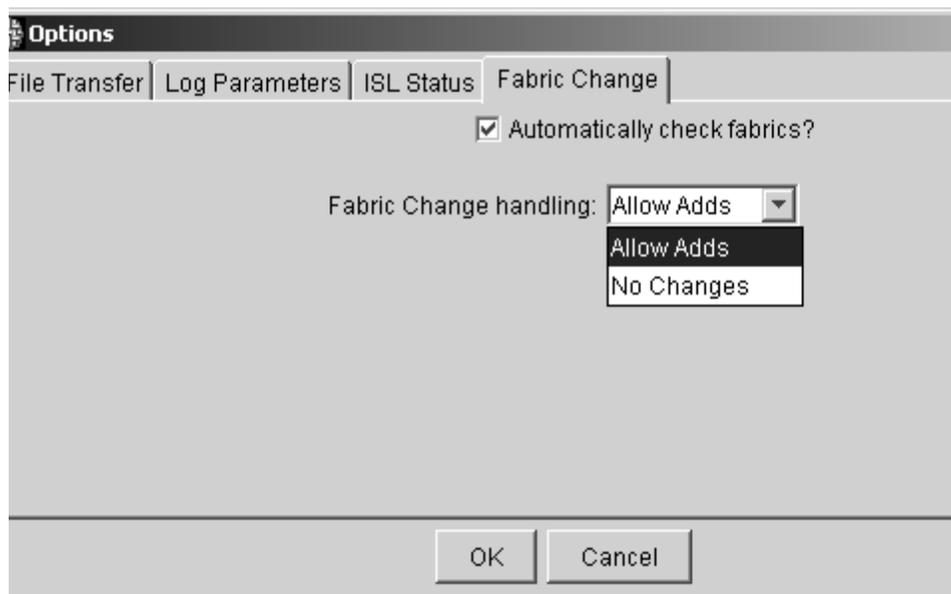

Figure 13: Fabric Change tab in the Options dialog box
2. Click **Fabric Change** tab. The **Fabric Change** tab displays, as shown in Figure 13.